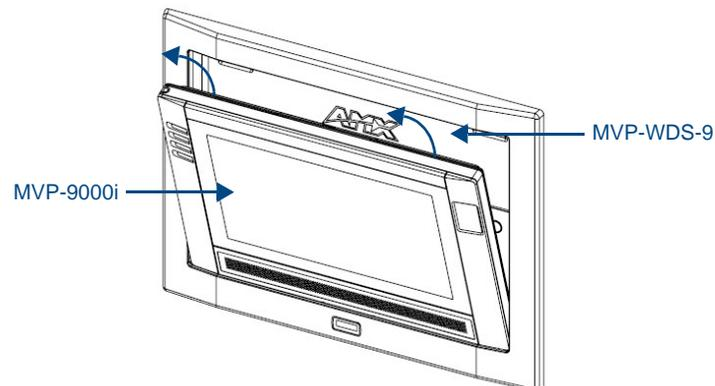

FIG. 18 Ejected position for the MVP-9000i
3. To release the touch panel, unlock the touch panel and wait for the Wall Docking Station to pivot the touch panel away from the wall (FIG. 18).
- When disconnecting from a Wall Docking Station, wait for the Wall Docking Station to pivot the touch panel away from the wall (FIG. 18).